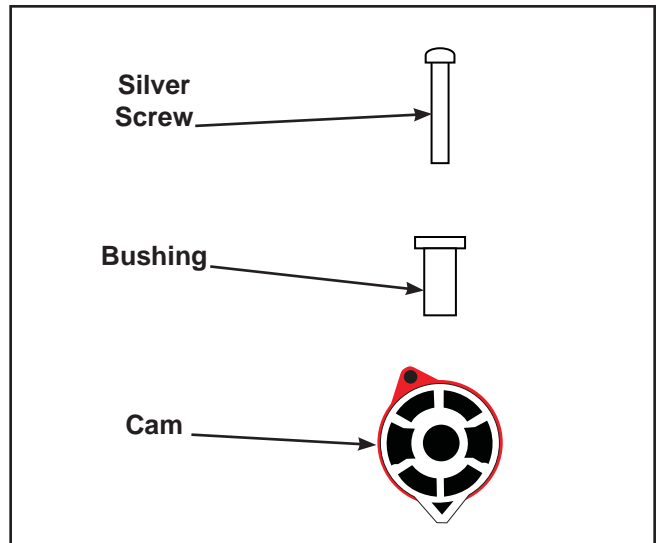
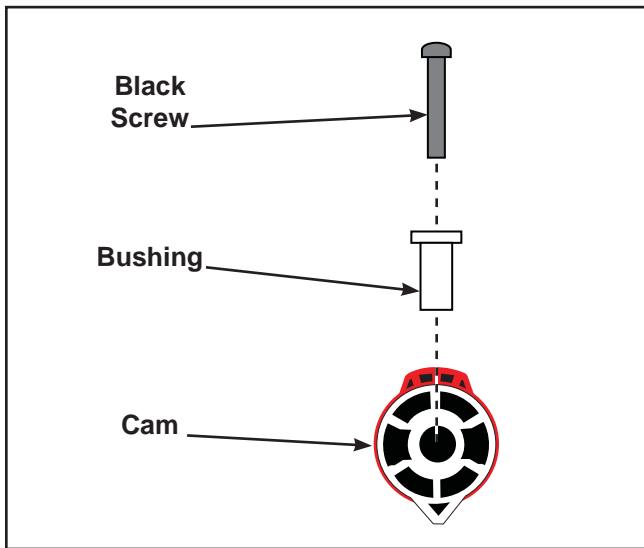

Figure 6
Figure 7
B. Remove the bushing from the cam and set aside. See Figure 6.
B. Assemble the cam by placing the black screw and bushing (from step 6B) into the cam. See Figure 7. **NOTE:** The new cam has a larger red tab. Compare the cam shapes in Figures 6 and 7.